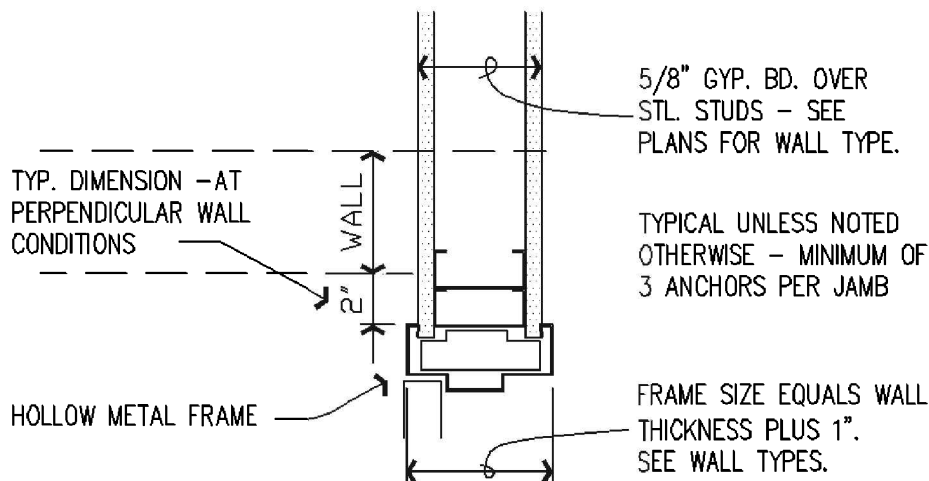

FIGURE 5-4.3 Typical hollow metal door jamb detail
In this book, all doors adjacent to a wall will have a 2" dimension between the wall and the edge of the door frame (per Figure 5-4.3), and all other doors will be dimensioned. A note to this effect is usually found in a set of Construction Documents, which significantly reduces the number of doors that need to be dimensioned.
- a. Set the distance between the door opening and the adjacent wall to **4"**. Refer back to Exercise 2-2 for a refresher on this. The 4" dimension accounts for a 2" portion of wall and 2" door frame, which the Revit door families unfortunately do not show. See Figure 5-4.3.
- d. Unless dimensioned, all doors are to be **4"** away from adjacent wall; see Figure 5-4.3. Do not draw dimensions.